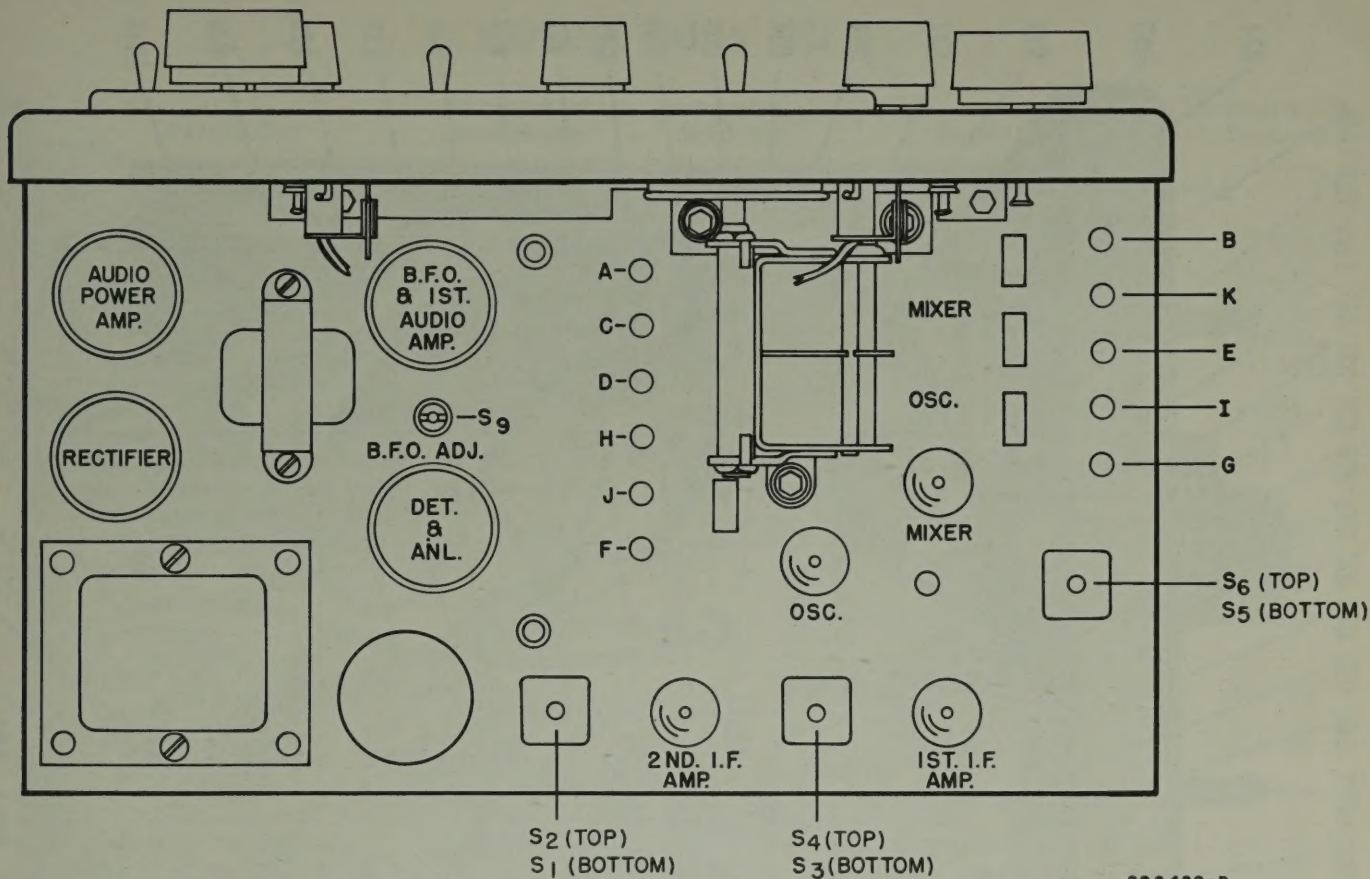

Fig. 9. Top View of Chassis Showing Location of Alignment Adjustments
- See Fig. 9 for location of alignment adjustments.